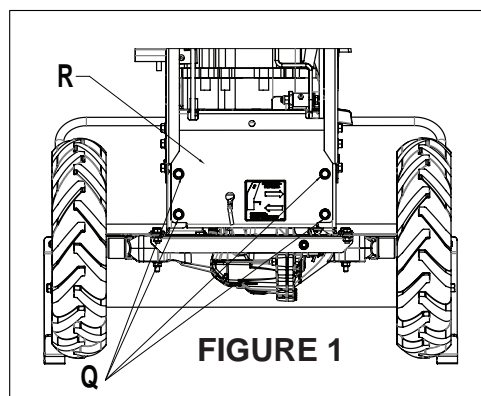

FIGURE 1
1. Remove the four bolts **Q** holding the rear cover **R**. (**Figure 1**)